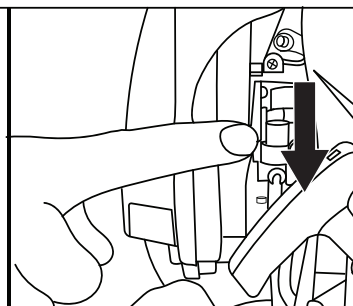

FIGURE 4
4.2.3 Ensure the choke is in the closed position. See Figure 4.